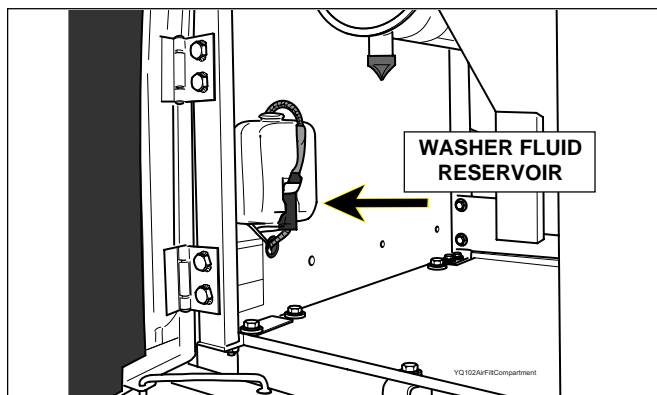

FIGURE 2.7C
- Press this switch, and washer fluid is sprayed while it is depressed. The washer fluid reservoir is located behind the cab, in the air cleaner compartment. See Figure 2.7C.